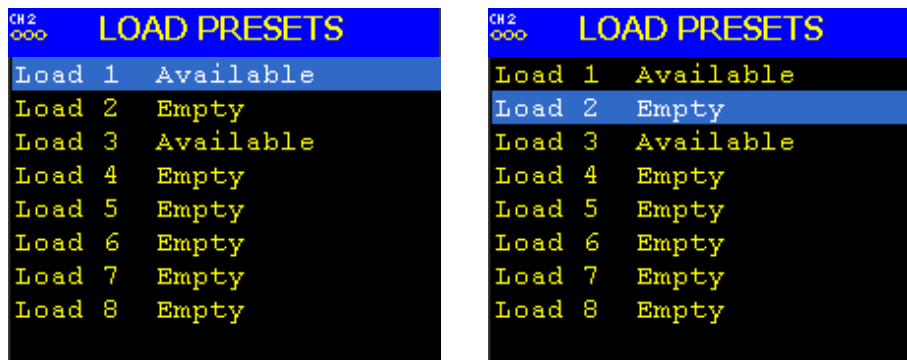

Figure 66: Load Menu, Load Presets – Slot 1 Load Available, Slot 2 Empty
The Load Presets screen, shown in Figure 66, displays eight (8) slots which may contain saved preset configurations. When a saved configuration file exists, the menu displays the message 'Available' next to the load slot. Use the Up and Down arrow keys to select a load slot with the 'Available' message displayed. Pressing the Enter key loads the stored preset and configures the receiver accordingly.